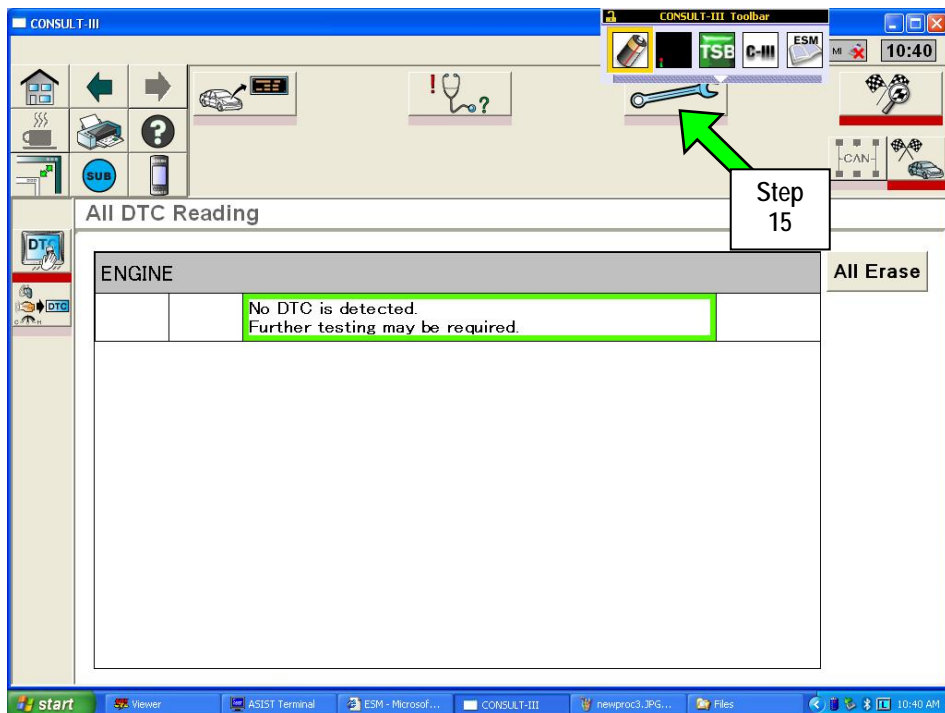

Figure 4
15. If there are no DTC detected, select the "Repair" wrench symbol (see Figure 4).